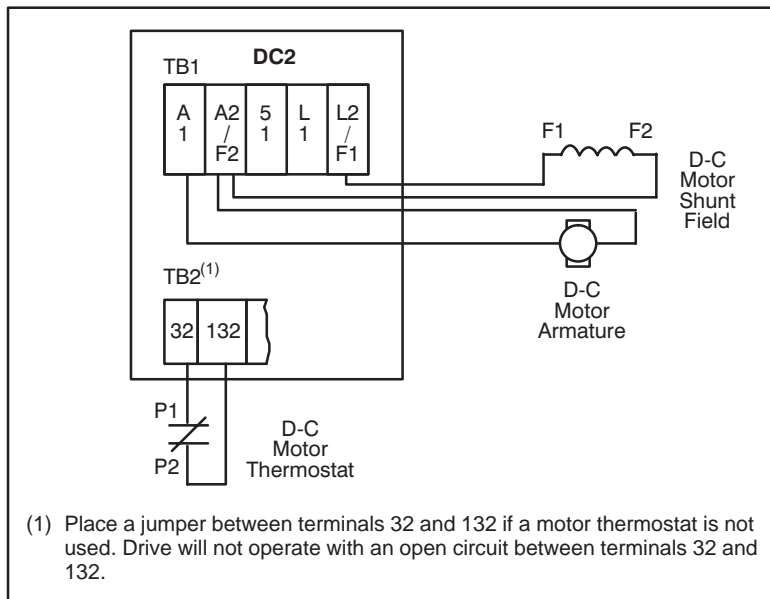

Figure 3-4. Armature, Field and Thermostat (CCW Rotation) Connections.
- For ALL Catalogs (except 1365-DAF): If CCW motor rotation is desired (looking from the back of the motor or the shaft end), connect motor armature leads A1 and A2 to controller terminals TB1-A1 and TB1-A2/F2, respectively, as shown in Figure 3-4. If CW motor rotation is desired (looking from the back of the motor or the shaft end), reverse the motor armature connections at the motor.
- Connect the motor shunt field supply (when available) leads F1 and F2 to controller terminals TB1-L2/F1 and A2/F2, respectively. See Figure 3-4.
7. Connect the motor thermostat leads P1 and P2 to controller terminal TB2-32 and TB2-132, respectively. See Figure 3-4.